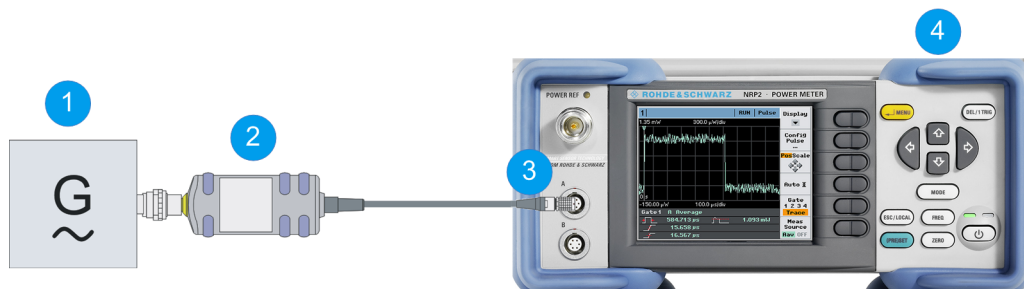

Figure 6-3: Setup with an R&S NRP2 base unit
1. Connect the power sensor to the SENSOR connector of the R&S NRP2 as shown in Figure 6-3.